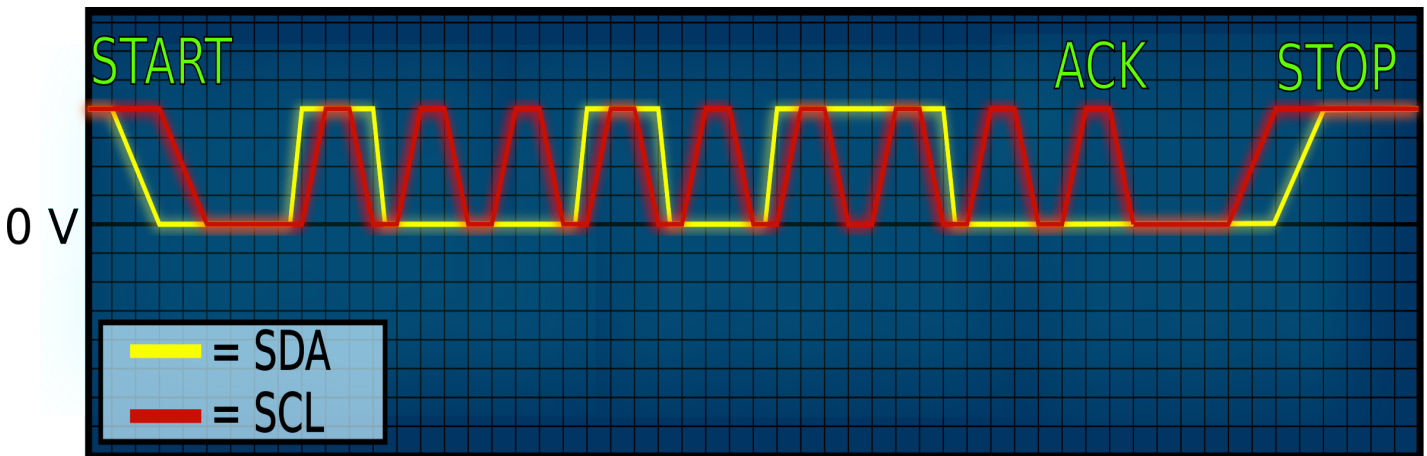

Figure 1: I²C Overhead
Protocol Overhead: When actually programming a device to use I²C, there are many low-level details to consider. Most basic is the **protocol overhead**, which refers to the extra signaling that must be done in order to successfully transmit data between two devices. The I²C protocol has three non-data signals (sometimes referred to as conditions): (1) the **START** signal, (2) the **ACK** signal, and (3) the **STOP** signal. Depictions of each of these signals can be seen in Figure 1 below.
A **START** condition occurs when the SDA signal (shown in yellow in Figure 1) transitions from a high voltage to a low voltage while the SCL signal (shown in red in Figure 1) is at a high voltage. This signal informs devices on the I²C bus that they should start listening for transmissions from the master. The next section of signaling shown in the figure (after the **START** condition and before the **ACK** condition) corresponds to actual data transmission. In hexadecimal, the data being sent in this example is 0x96 (or 0b10010110 in binary). This is determined by looking at the voltage of the SDA line at each pulse of the SCL line. On the first pulse of SCL, SDA is high, so the corresponding data bit is a 1. On the second pulse of SCL, SDA is low, so the corresponding data bit is a 0. And so on and so forth. After the byte of data has been signaled
on the I²C bus, the intended receiving device will either acknowledge (**ACK** condition) that it received the data or it won't (**NACK** condition). Acknowledging the receipt of a data byte requires the receiver to pull the SDA line low during the ninth pulse of the current SCL cycle (note that the ninth SDA value is not part of the transmitted data). If the receiving device does not receive the data, then it does nothing, leaving the SDA line high during the ninth SCL pulse (we will explain later why the default value of SDA is high, instead of low). At the end of a data transmission, a **STOP** condition is signaled on the bus, indicating to the slave that the transmission is complete. As can be seen in Figure 1, a **STOP** condition occurs when SDA transitions from a low voltage to a high voltage, while SCL is at a high voltage.